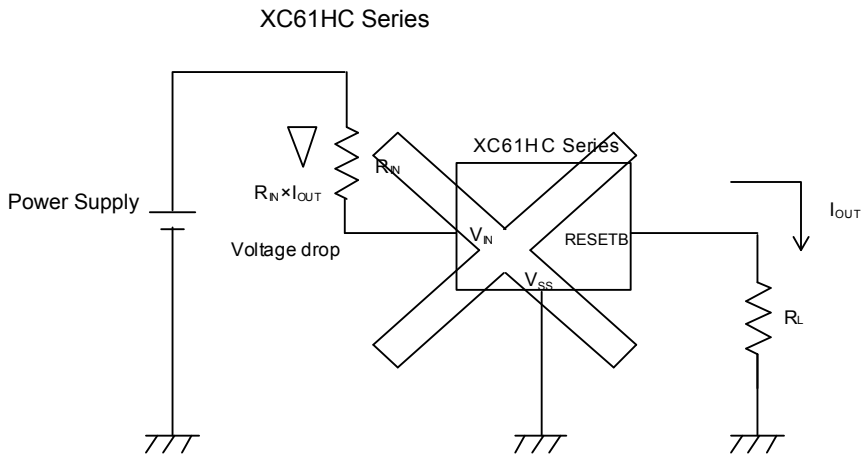

Figure 2 Irregular Oscillation by output current
3. When a resistor (R_{IN}) is connected between the V_{IN} pin and the power supply with CMOS output configurations, irrespective of N-ch open drain output configurations, oscillation may occur as a result of shoot-through current at the time of voltage release even if load current (I_{OUT}) does not exist. (refer to Figure 2 below)